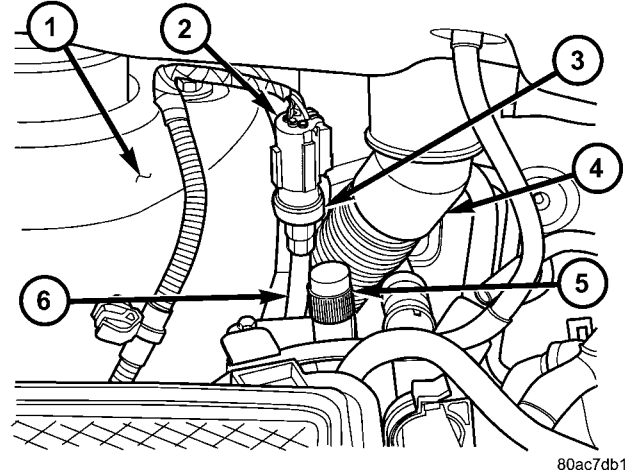

Fig. 12 A/C Pressure Transducer - Typical
- (1) Disconnect and isolate the negative battery cable.
- (2) Disconnect the wire harness connector from the A/C pressure transducer located on the liquid line (Fig. 12).
- (3) Remove the A/C pressure transducer from the fitting on the liquid line and remove and discard the O-ring seal.